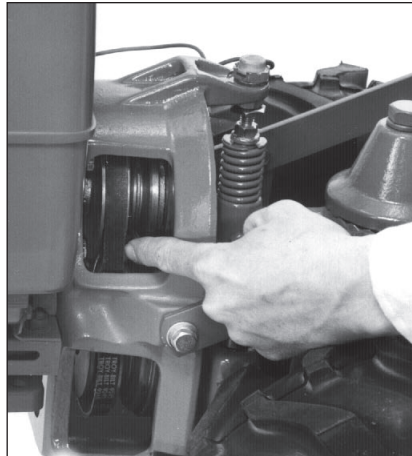

Figure 4-11: Low range to high range. Shows moving belt from top-rear groove onto top-front groove.
5. Working from the *left side* of the tiller, work the belt as much as possible onto the top-front engine pulley groove (Figure 4-11).